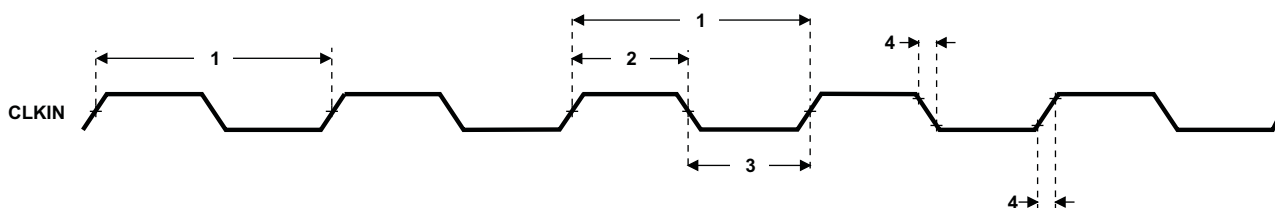

Figure 5-9. CLKIN Timing
Table 5-4. Timing Requirements for CLKIN(1) (2) (see Figure 5-9)